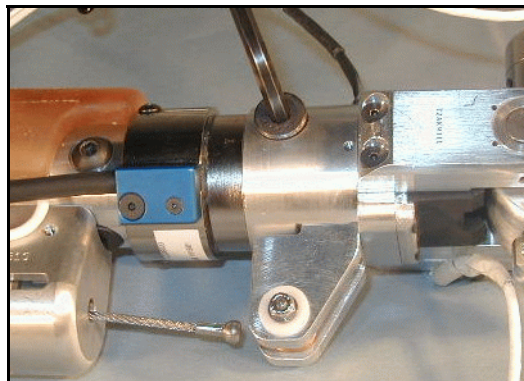

Figure 3.24 - Attaching Ankle Assembly to Lower Leg
23. Secure the ankle assembly to the lower leg assembly using the Ankle Retaining Bolt (T2AKM029) {3/16} as shown in **Figure 3.24**.